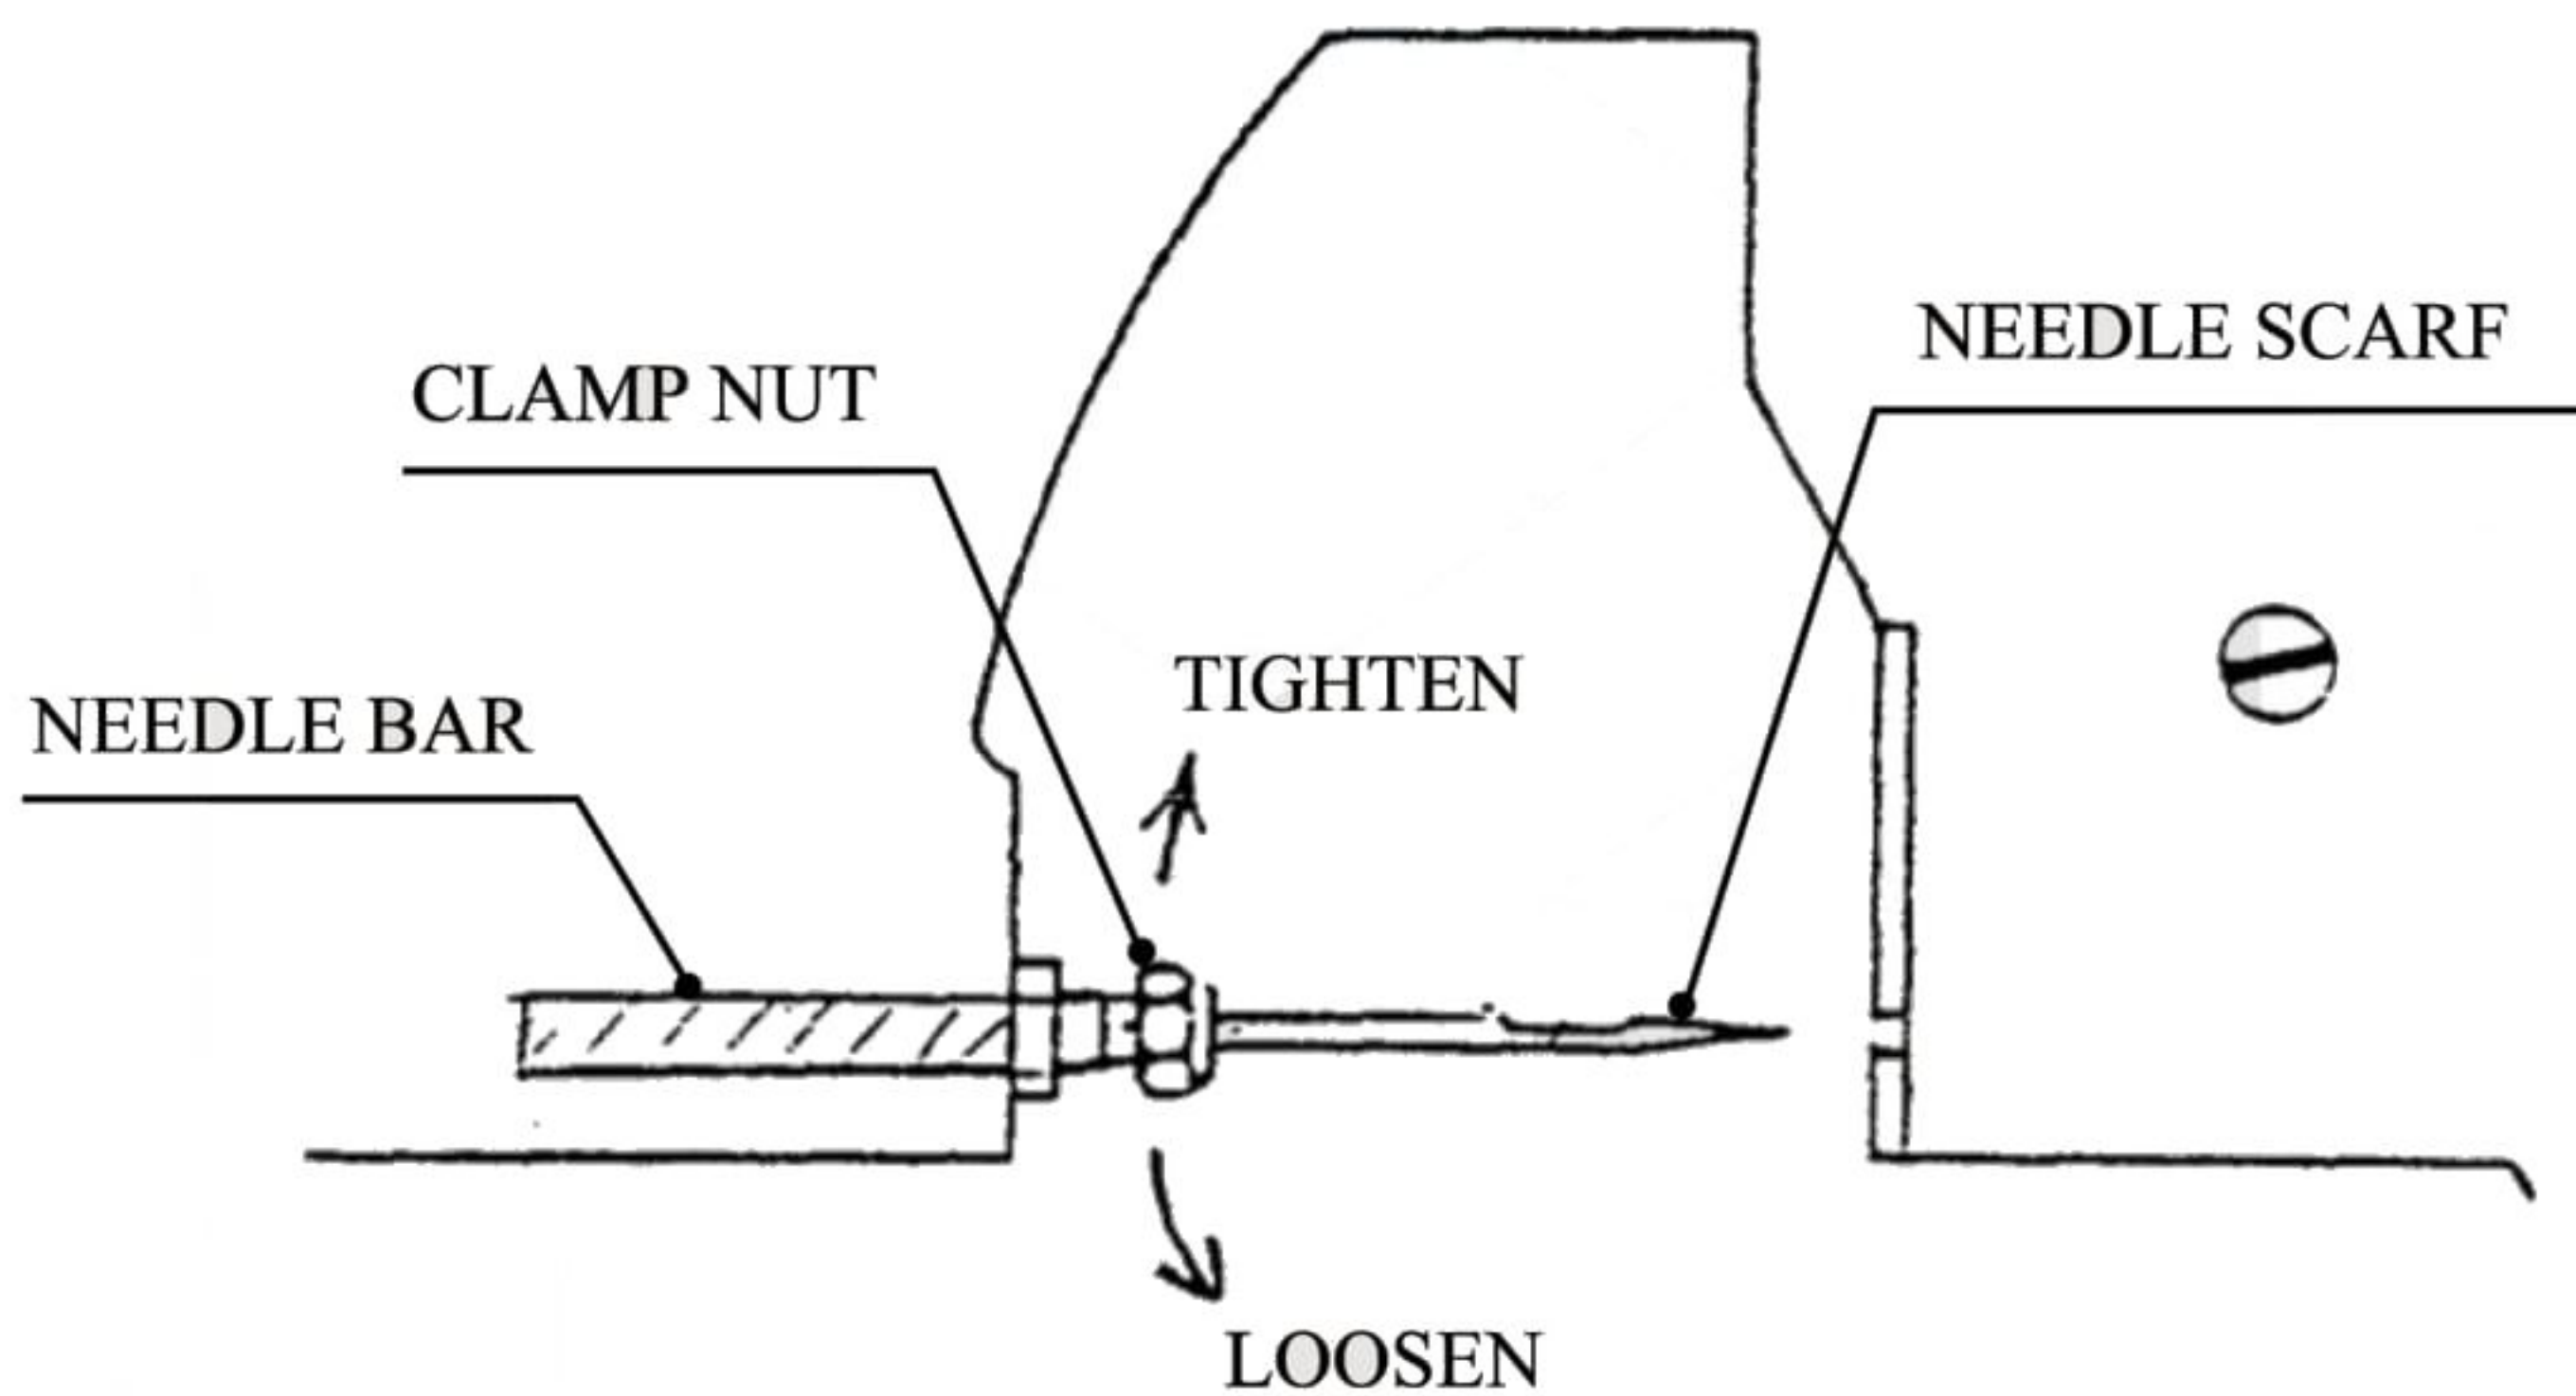

FIG. 01
A. Needle Assembly / Disassembly : (See also Fig.01)